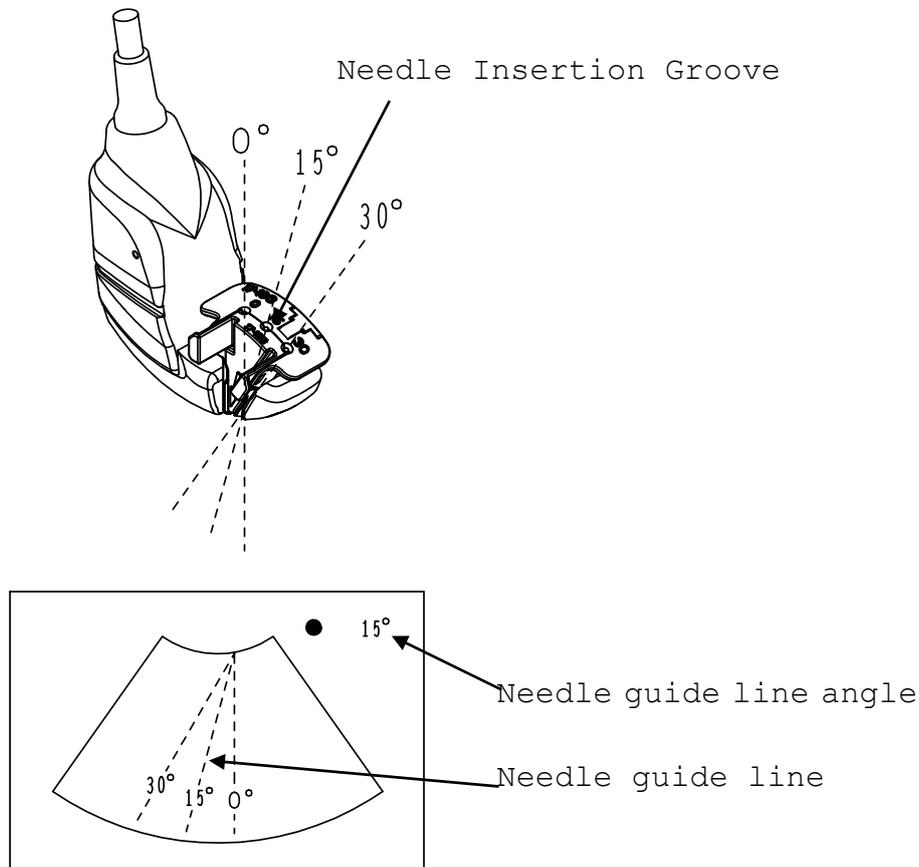

Fig.17 Relationship between the needle insertion groove and biopsy guide line angle
- 3) Relationship between the needle insertion groove and needle guide line angle following "3. Operation Procedure" Fig.17. Also, Confirm that the needle moves smoothly and there is no blurring between the needle and biopsy attachment.
- 16) Insert a needle into the needle insertion groove of the biopsy attachment set corresponding to the display angle of the needle guide line, fix the probe and perform biopsy. Relationship between the needle insertion groove and needle guide line angle is shown in Fig.17.